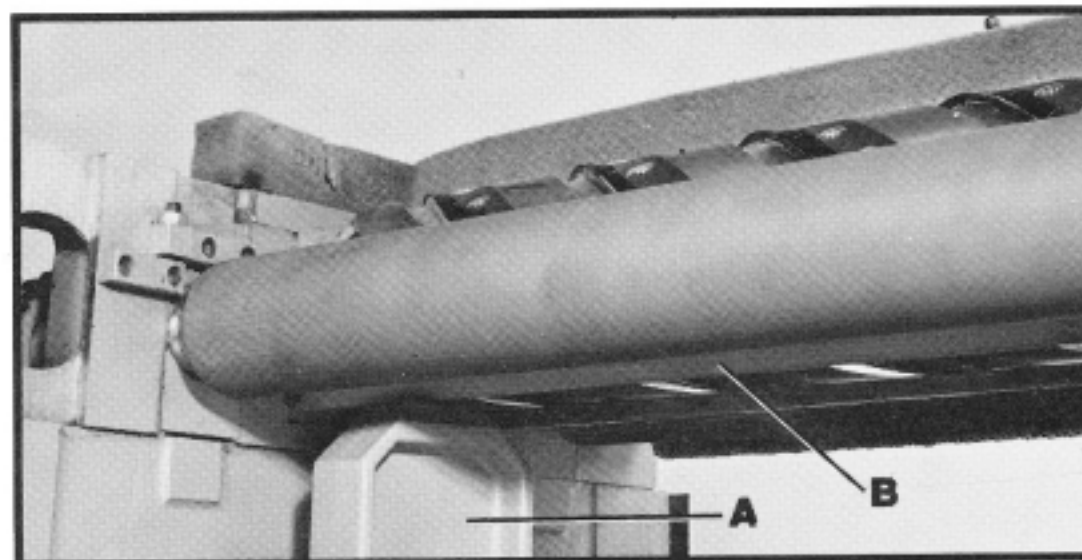

Fig. 26
7. Move the gage block (A) underneath the pressure bar (B), as shown in Fig. 26. The bottom of the pressure bar (B) should just touch the top of the gage block. Check the opposite end of the pressure bar in the same manner.